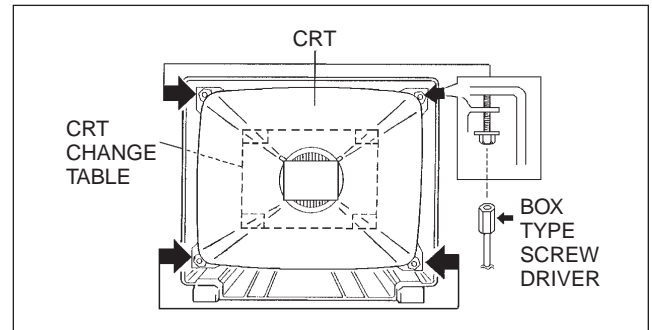

Fig.5
- (2) While keeping the surface of CRT down, mount the TV set on the CRT change table balanced will as shown in Fig. 5.
- (3) Remove 4 screws marked by arrows with a box type screwdriver as shown in Fig. 5.